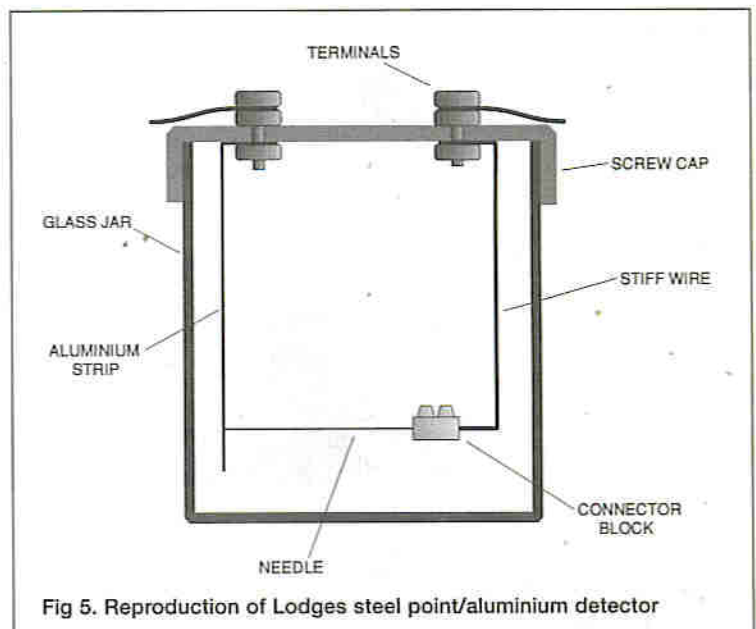

Fig 5. Reproduction of Lodges steel point/aluminium detector
D. Lodge's aluminium/steel needle (Fig 5)